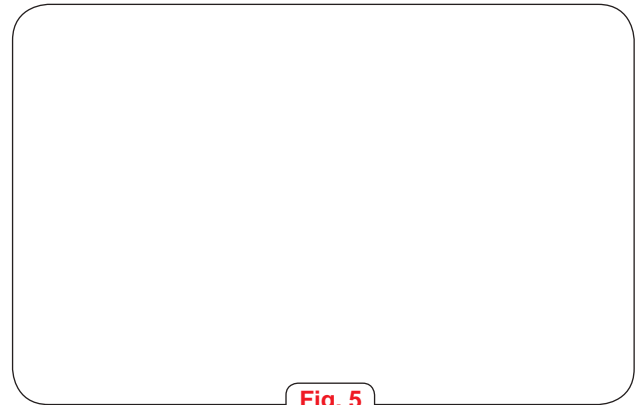

Fig. 5
- Place platform "B" on cross-beams "A".(Fig. 5).